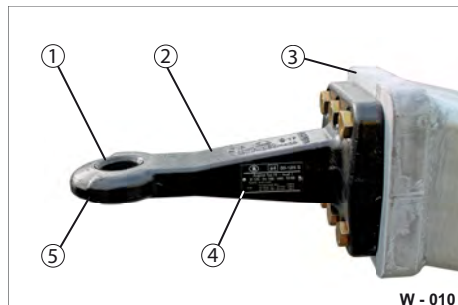
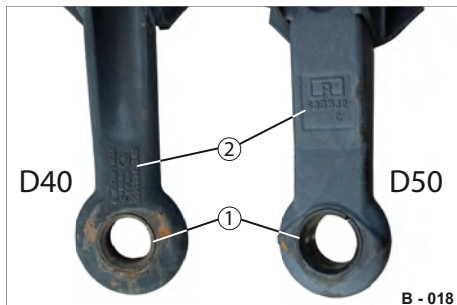

Fig. 10 Lubricating the towing eye
Fig. 13 Lubricating towing eyes/wear inspection
- Clean the wear bushing (Fig. 10/1) and the towing eye (Fig. 10/2) with a clean, dry cloth.
- Lubricate the wear bushing (Fig. 10/1) and the rounded area of the towing eye (Fig. 13/2) with long-term high-pressure grease.